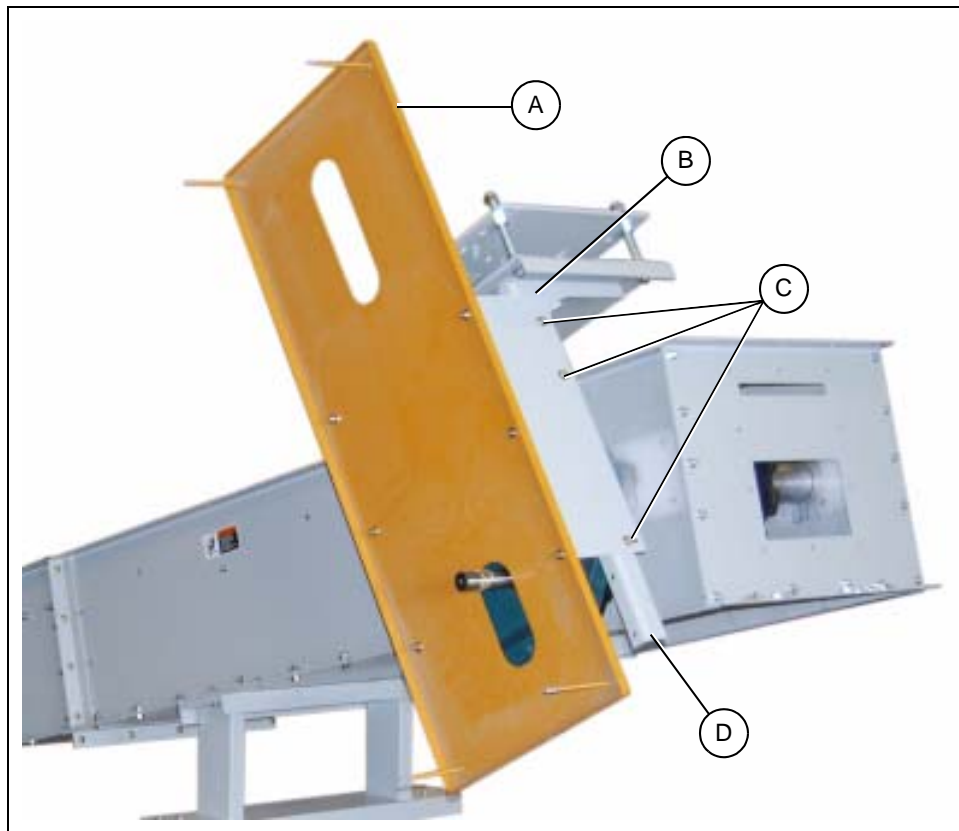

Figure 6AM Drive Guard Rear Panel
1. The drive guard rear panel includes belt guard mounting brackets (B) with slotted holes (C) for adjustment. Attach the left hand and right hand belt guard mounting brackets to the motor mount upright brackets (D).
2. Fasten the drive guard rear panel to the belt guard mounting brackets. *(See Figure 6AM.)*